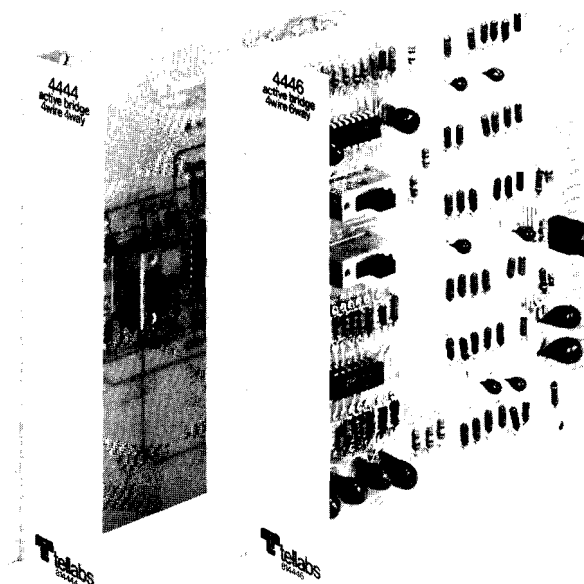

figure 1. 4444 and 4446 Active Bridges
1.01 The 4444 4Wire 4Way and 4446 4Wire 6Way Active Bridge modules (figure 1) provide, respectively, full 4way and 6way bridging of 4wire transmission facilities. The input of each 4wire port accesses the outputs of all other ports. Both Bridge modules are designed for use in voice conference applications.